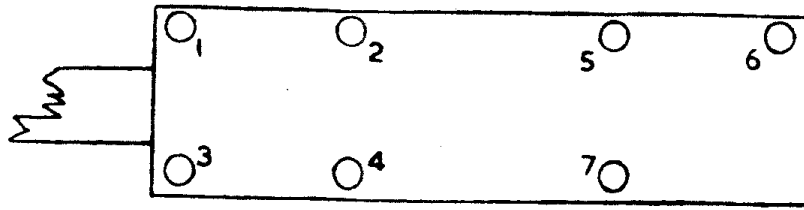

FIG 1 TAG POSITIONS ON UNDERSIDE OF FIRST AND SECOND I F TRANSFORMERS
2. Tag 4 (see Fig.1) is used as a junction point on the underside and all the leads soldered to it should be removed and a suitable junction tag provided.